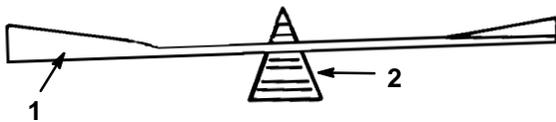

Figure 22
2. Check the balance of the blade by putting it on a blade balancer (Fig. 22). If the blade stays in a horizontal position, the blade is balanced and can be used. If the blade is not balanced, file some metal off the back side of the blade. Repeat this procedure until the blade is balanced.